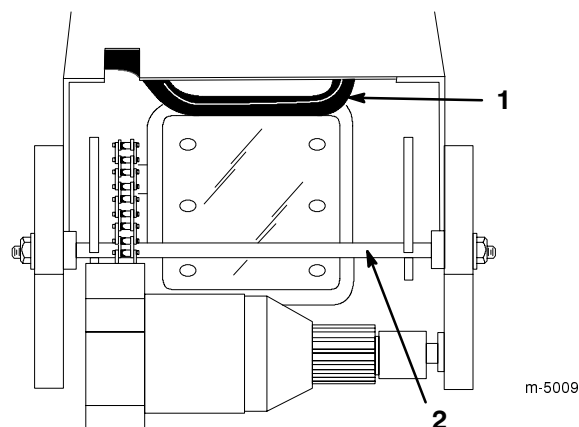

Figure 3
8. Push the latch rod to release the axle (Fig. 3).
9. Pull up on the axle while holding in the latch rod (Fig. 3).
10. Continue pulling the axle forward until the latch rod springs into the locked position (Fig. 3).